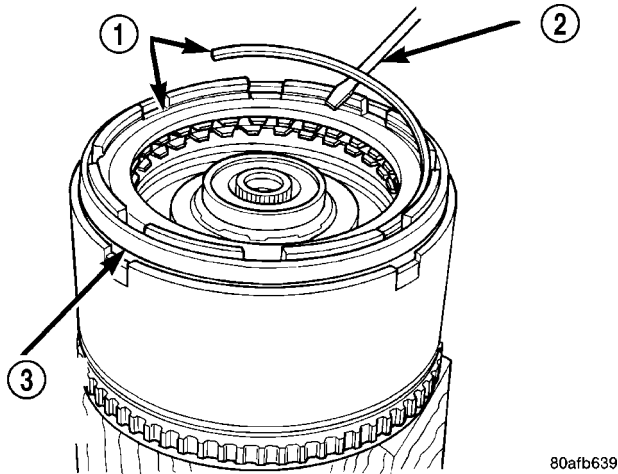

Fig. 268 Install Reverse Clutch Snap Ring
(30) Tap reaction plate down to allow installation of the reverse clutch snap ring. Install reverse clutch snap ring (Fig. 268) (Fig. 269).